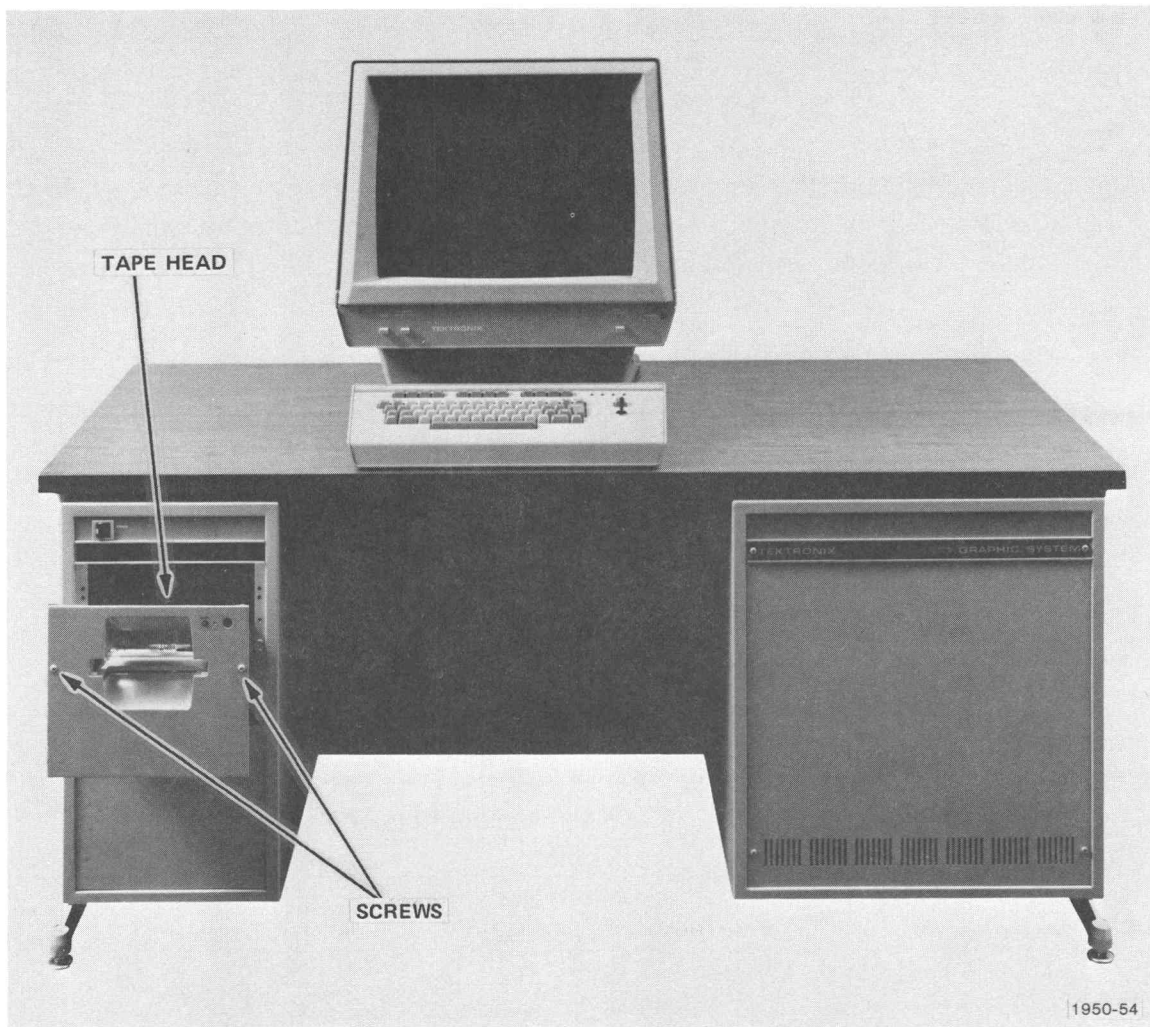

Fig. 15-1. Cartridge Tape Unit drive.
Cleaning the tape head in the Cartridge Tape Unit (Fig 15-1) regularly is necessary to prevent data errors and to preserve the life of the tape head. Oxide deposits, dust, and other foreign particles may be deposited on the head during operation and act as abrasives when propelled across the head by tape motion.
2. Loosen the two screws on the front panel of the Cartridge Tape Unit drive (Fig. 15-1) and slide the drive out of the cabinet.